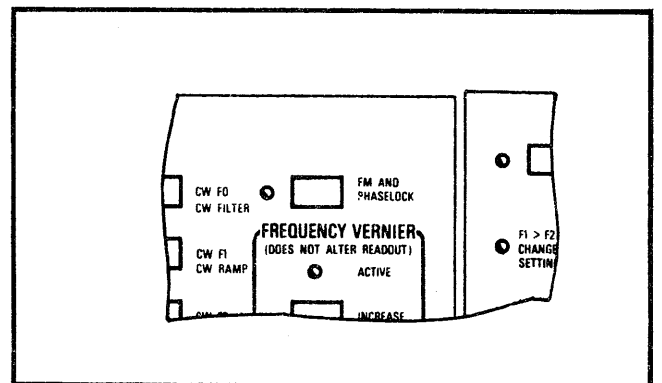

Figure 3-13. FM AND PHASELOCK Pushbutton
- d. FM AND PHASELOCK Pushbutton (Figure 3-13). This pushbutton allows the sweep generator output frequency to be either frequency-modulated or phase-locked to an external frequency standard. The external FM or phase-lock signal is input via